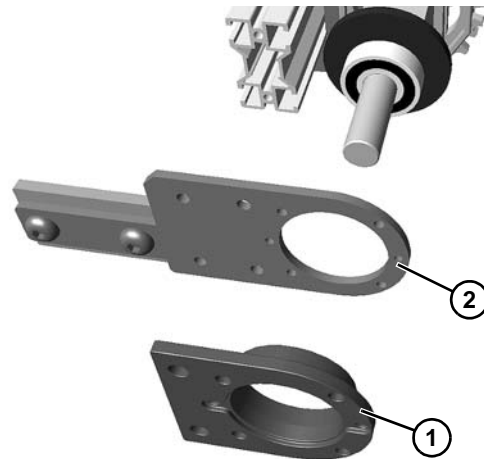

Figure 68
10. Remove bearing housing (**Figure 68, item 1**) and backing plate (**Figure 68, item 2**) off of drive tail assembly.